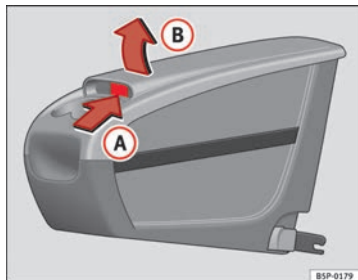

Fig. 114 Mobile storage compartment. Opening
- Lift the cover (B), in area (A) ⇒ fig. 114.